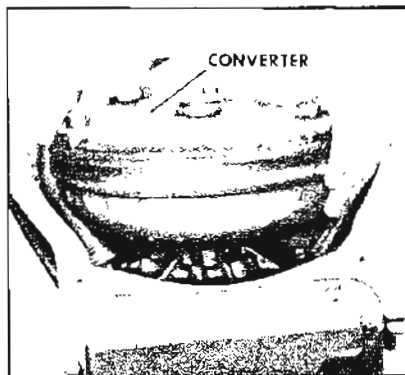

Figure 5-369
- 3. Install converter. See Figure 5.369.